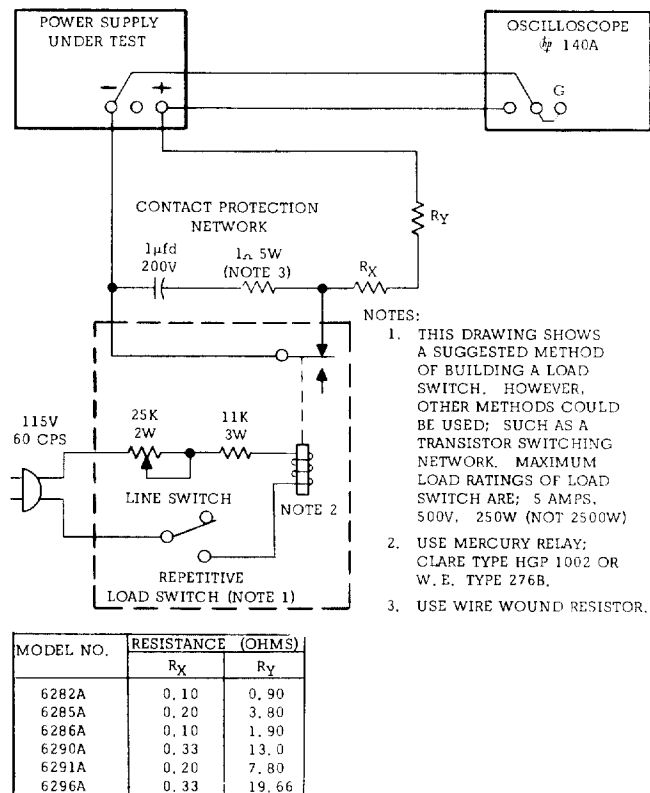

Figure 5-7. Transient Response, Test Setup
| Repetitive Load Switch       | Rate: 60 — 400 Hz, 2 $\mu$ sec rise and fall time.                       | Measure transient response                  | See Figure 5-7              |
- Connect test setup shown in Figure 5-7.